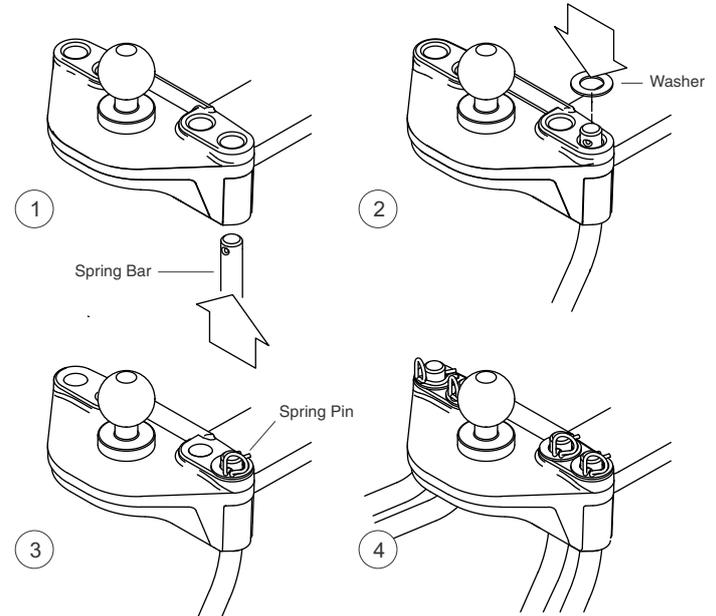

FIG. 5a
- Place snap up brackets on to a frame at a distance between 450 to 660mm from the centre of the coupling. Fasten the bolts on the snap up brackets to secure brackets into place ensure that both snap up brackets are at equal distances (**FIG 5a**).